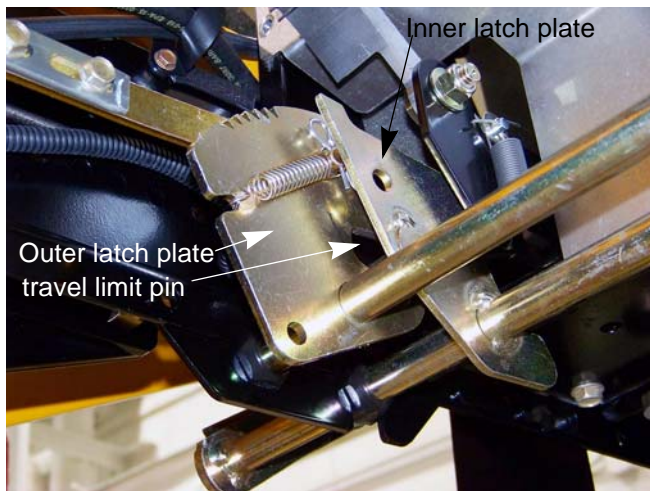

Figure 3.2
- The travel limit pin should be resting against the front of the curved slot. See Figure 3.2.